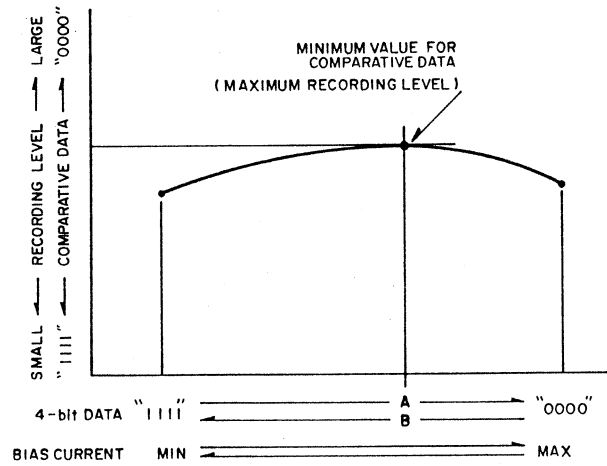

Fig. 12-14 Bias Adjustment
Refer to figures 12-14 to 12-16. For bias adjustment, the 4-bit data (D/A 1) is changed one step at a time from 0000 to 1111, or 1111 to 0000, and the recording level is checked at each level, adjusting the bias value each time. Adjustment takes about 8 seconds to perform (250 ms x 32 steps). (1) The 4-bit data (D/A 1) is changed one step at a time from 1111 (minimum bias) to 0000 (maximum bias), and the recording level is checked in the comparative mode each step. The minimum comparative data is held,